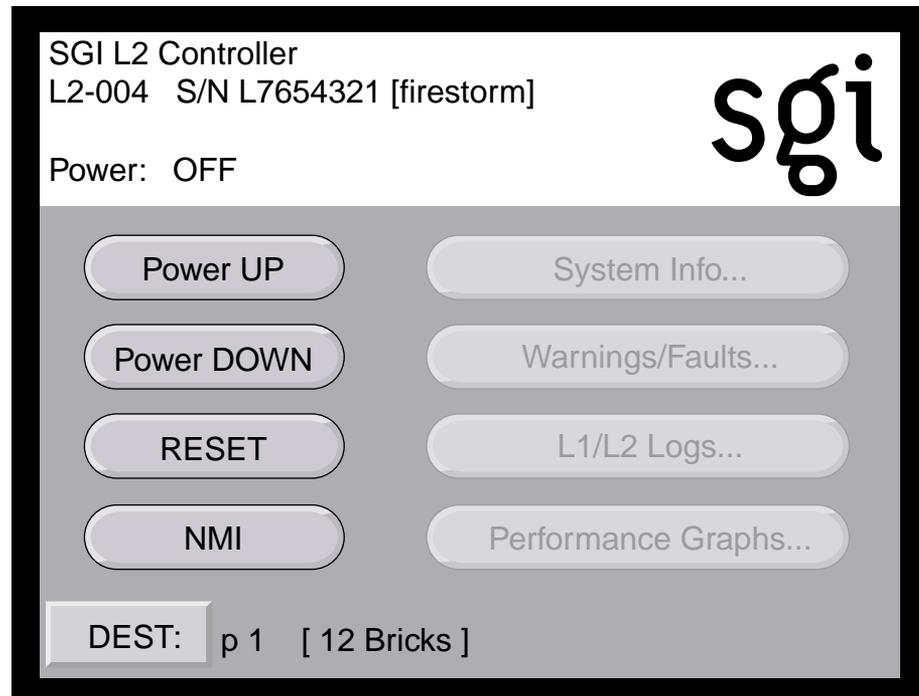

Figure 4-12 Home Window with Partition Destination
6. The **New DEST** field shows *p 1*, which indicates that partition 001 was selected as the new destination. If you select **Apply**, your selection is confirmed and the home window, shown in Figure 4-12, appears. The **DEST** field shows *p 1 [12 Bricks]*, which indicates that all 12 Bricks belonging to partition 1 is the new destination.